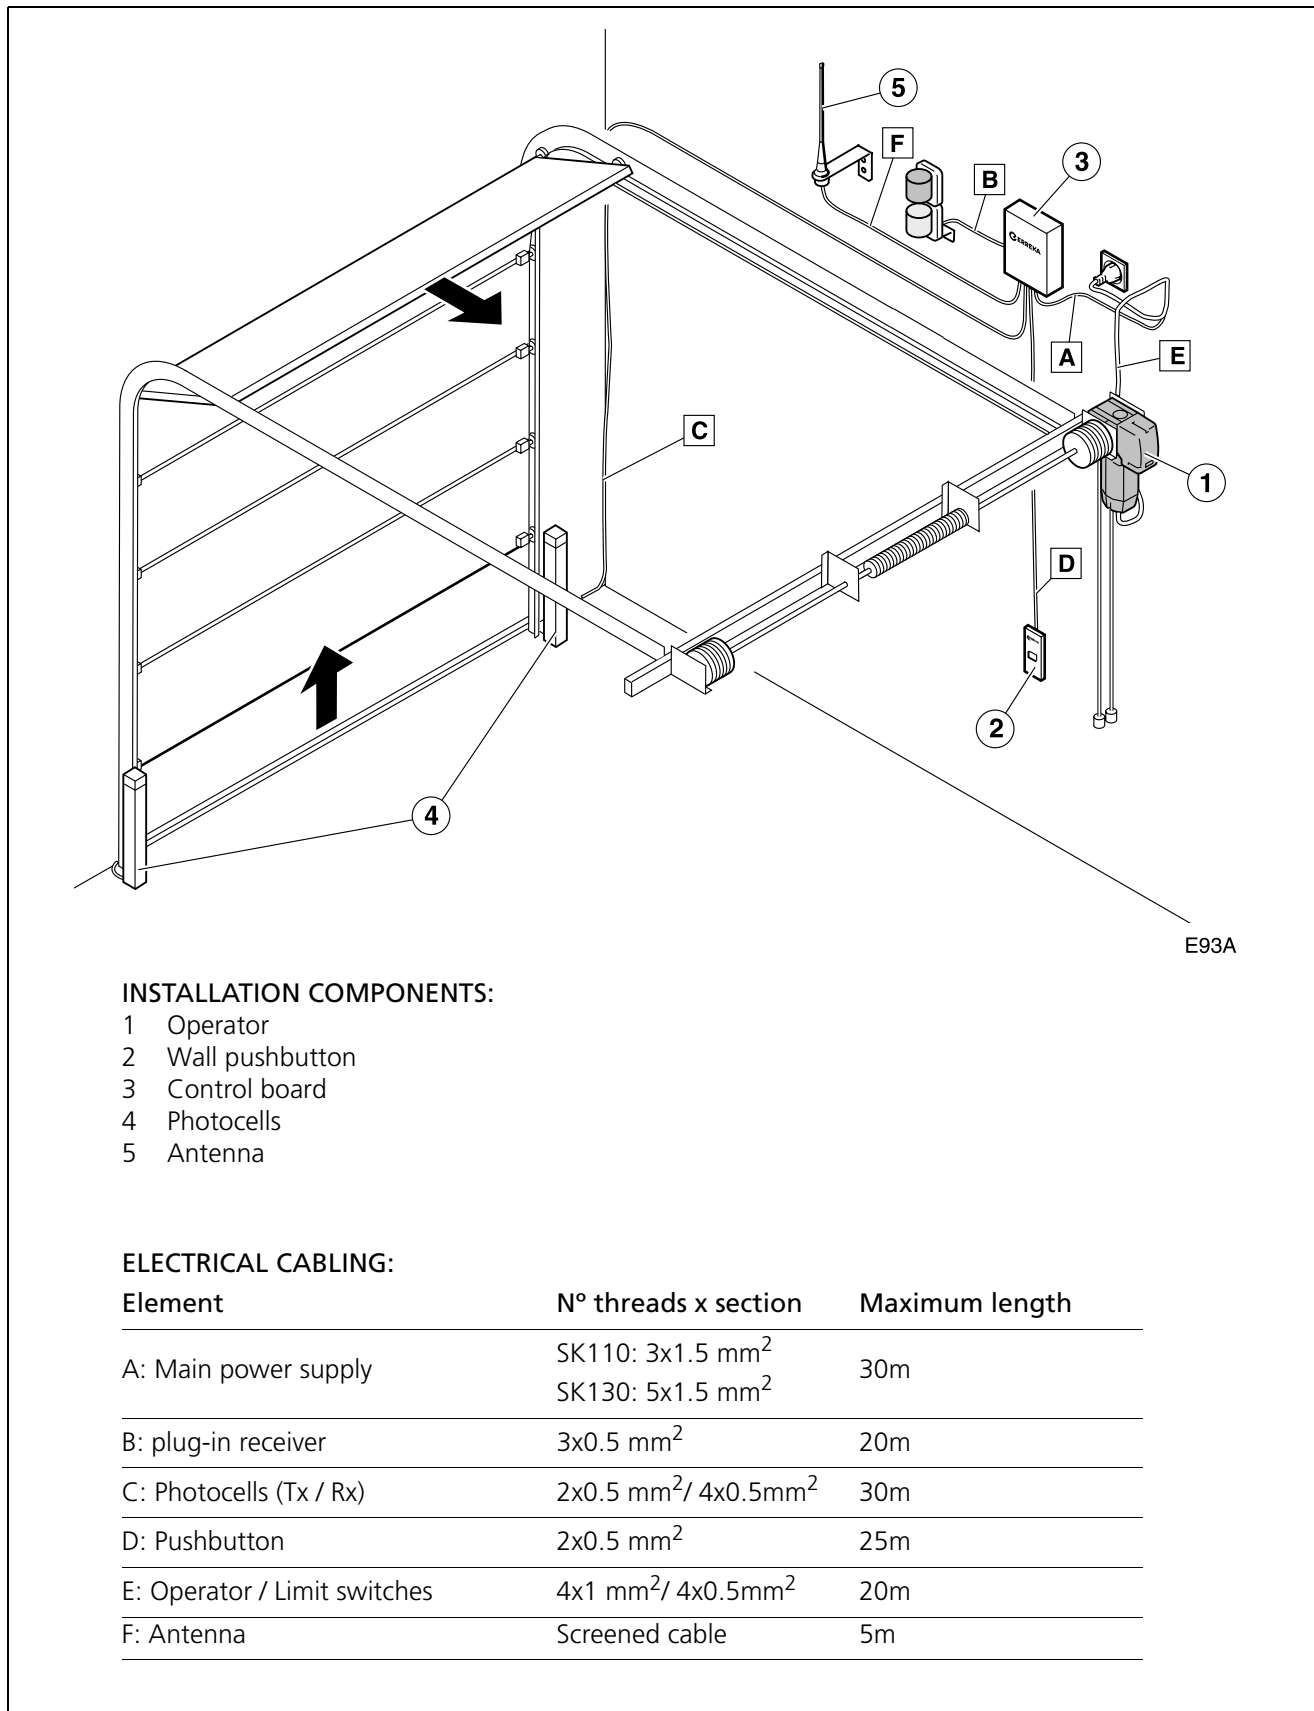

Fig. 1 Elements of the complete installation
📌 For further details, see "Fig. 1 Elements of the complete installation" on page 27.
- ☞ The electrical cable section is indicated in: "Fig. 1 Elements of the complete installation" on page 27.